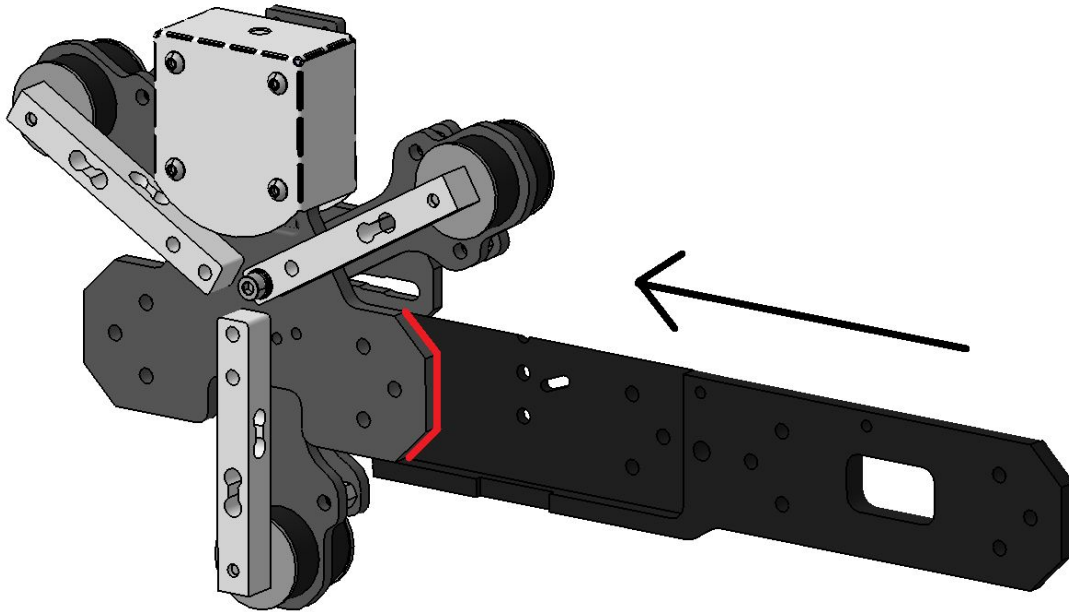

Fig. 4.40: Slide the special mount plate into the load measurement unit using highlighted feature
- Slide the special mount all the way in as shown in Fig. 4.40 until the edges in contact and the six holes on the special mount aligning with the lower plate of the load measurement unit.